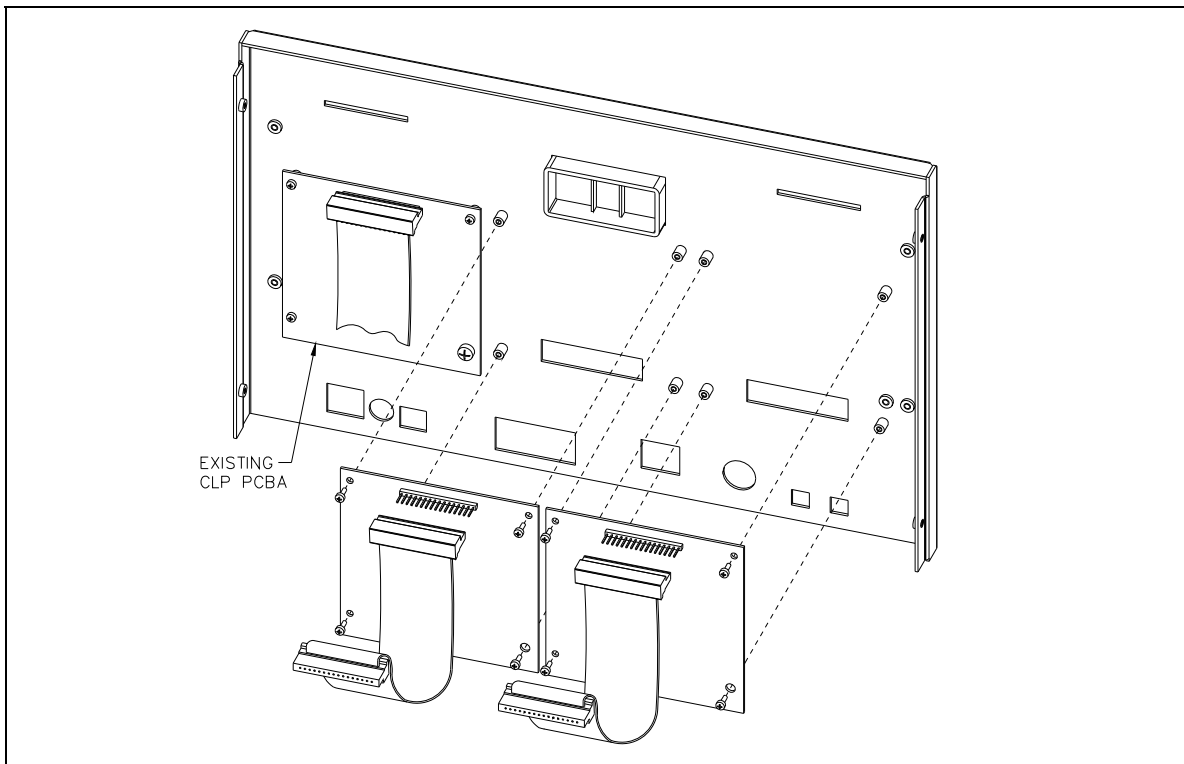

Figure 2. Inside of rear cover
3. Mount the new CLP PCBA next to the existing CLP board using the four threaded stand-offs with the #4-40 screws provided. See Figure 2.